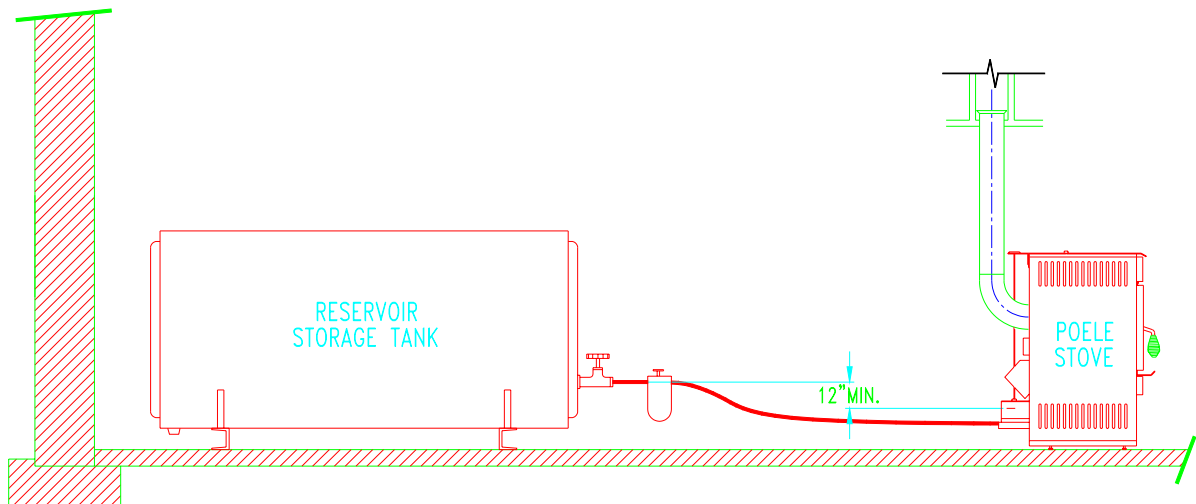

Figure 11 : STOVE AND OIL TANK CONNECTION
- The unit has to be stabilized in its location using the two fixation brackets. Install the brackets on the two back adjustable legs. (figure 11)